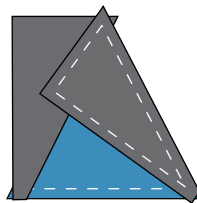
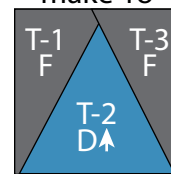

Fig. 3
Fig. 4
3. Place (1) Fabric F Template 3 triangle on top of the Fabric D Template 2 triangle, right sides together, aligning the right sides (Fig. 3). Sew the (2) triangles together along the right side. Press the smaller triangle open to make (1) Block One square (Fig. 4). Trim the block to measure $4\frac{1}{2}$ " square.
4. Repeat Steps 2-3 to make (18) Block One squares total.